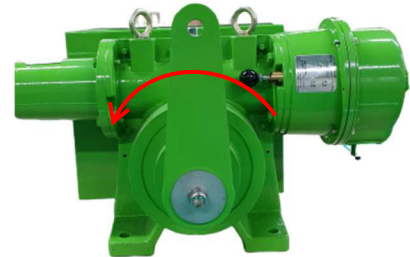

Fig.2 : Forward direction 's rotation of output shaft
(2) Direction of rotation of output shaft (Fig.2)